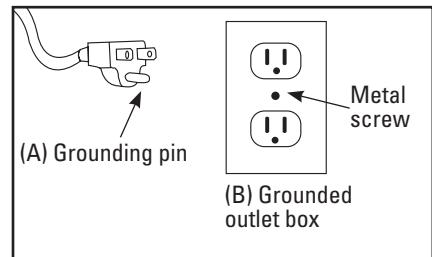

FIGURE 2
NOTE: This saw is intended for use on a circuit that has a grounded outlet box like the one illustrated in FIGURE 2 (B). This saw has a grounding plug that looks like the one illustrated in FIGURE 2 (A).